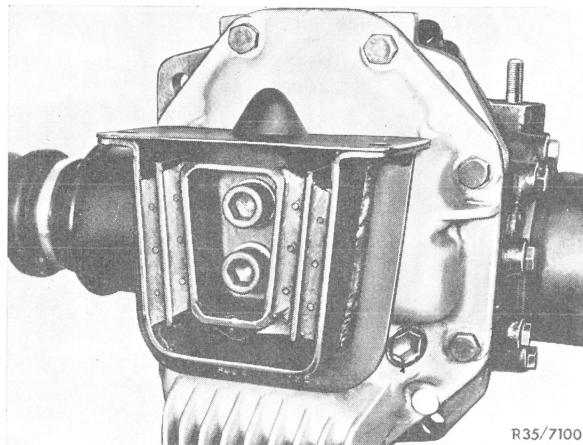

Fig. 10
**14** Inscrew rubber mounting from rear axle center housing (Fig. 10).
**16** Attach rubber mounting to rear axle center housing. Tighten hex. socket screws to 120 Nm (12 kpm) (Fig. 10).